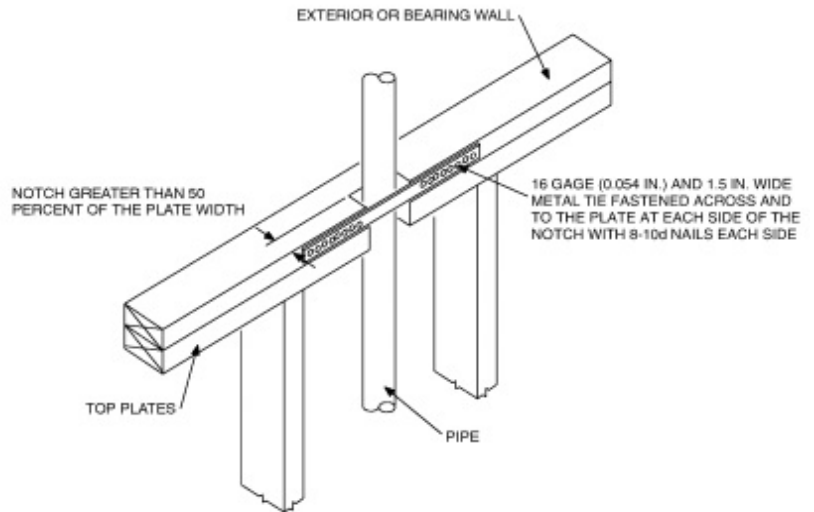

Fig. 4: Top plate framing to accommodate piping
- Minimum 16 gauge 1½" strap with minimum (8)-10d nails, with minimum 6" past each side of notches or holes > 50% of plate width (see Figure 4) (R602.6.1).